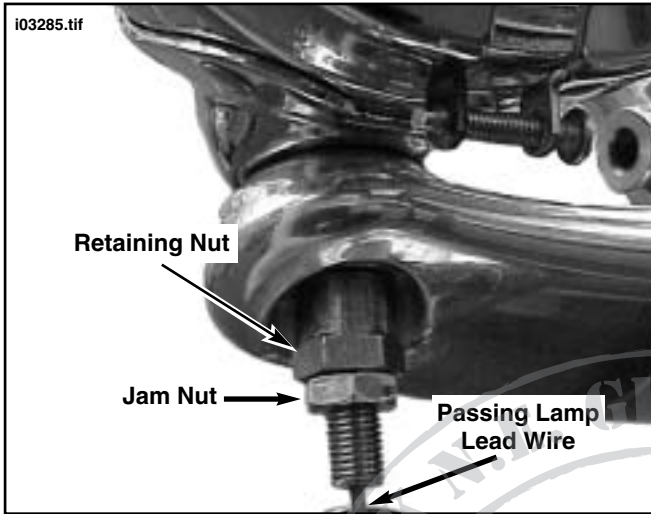

Figure 9. Install Retaining Nut and Jam Nut
- See Figure 9. Route passing lamp lead wire through new retaining nut and install new retaining nut (P/N 68323-01) to passing lamp threads. Snug retaining nut into place.